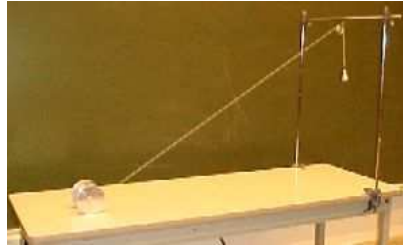

Figure 3
- A nice extension of this demonstration is to set the system up so that the string passes over a pulley and the force is supplied by hanging a weight from the end of the string (Figure 3).